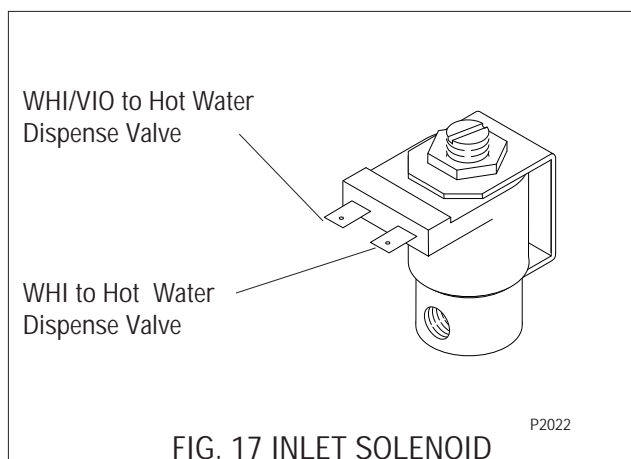

FIG. 17 INLET SOLENOID
12. Refer to FIG. 17 when reconnecting the wires.